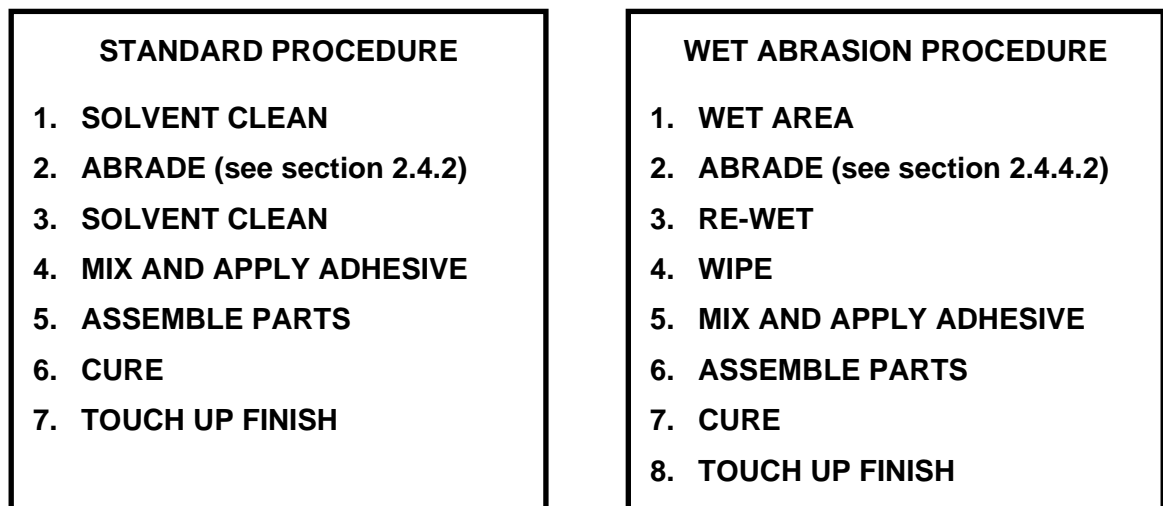

FIGURE 1. PROCESS FLOWCHART
- 2.3 **Process Flowchart** – Processing shall be as shown in Figure 1.